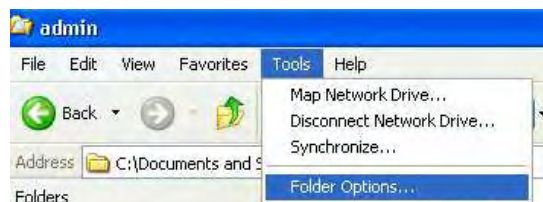

Figure 1-26. Menu – Tools - Folder Options
3. To fix selected view, select **Tools** from the menu bar. The "Tools" menu is displayed (Figure 1-26).